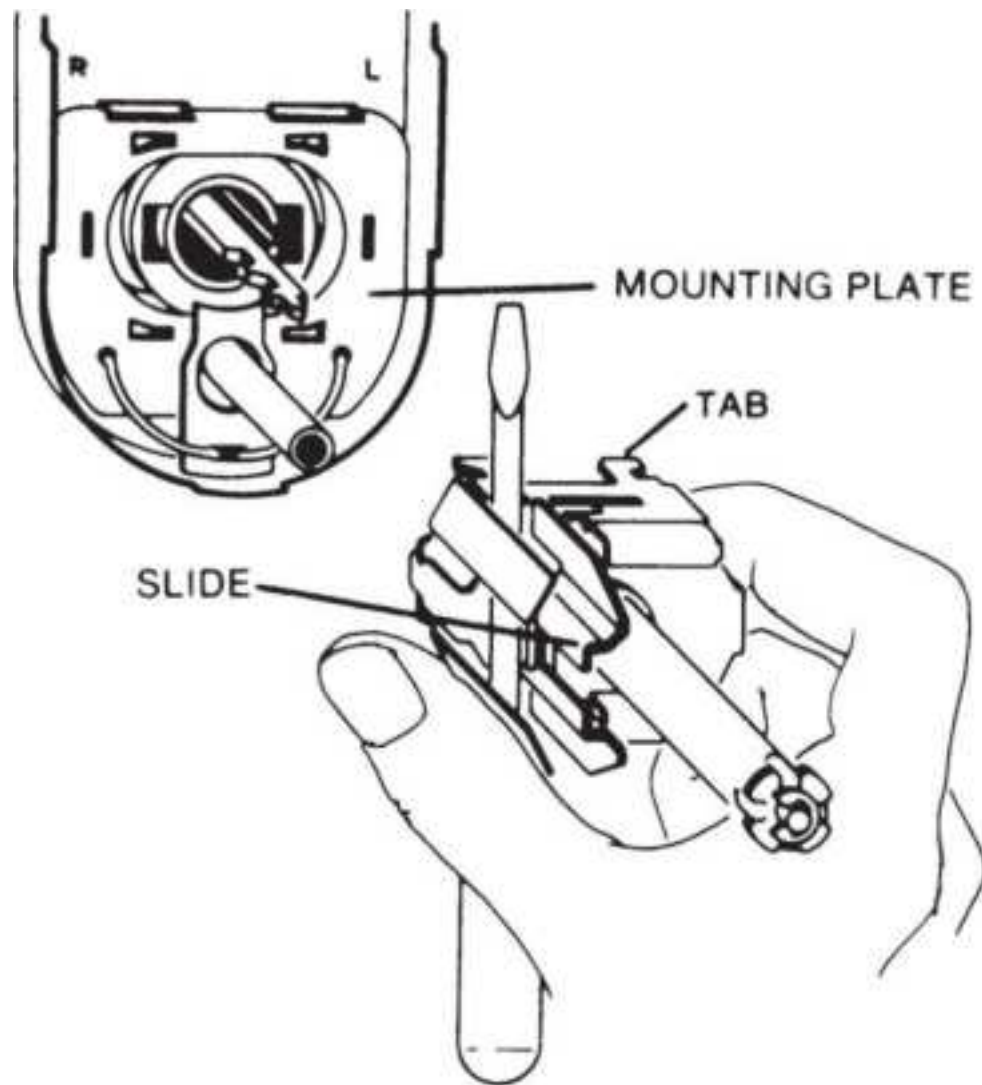

**Figure 13.99** Right-hand conversion, Step 7.
7. Rotate the slide assembly 180°. With the slide compressed, insert the lugs into slots on the mounting plate (Fig. 13.99 ).